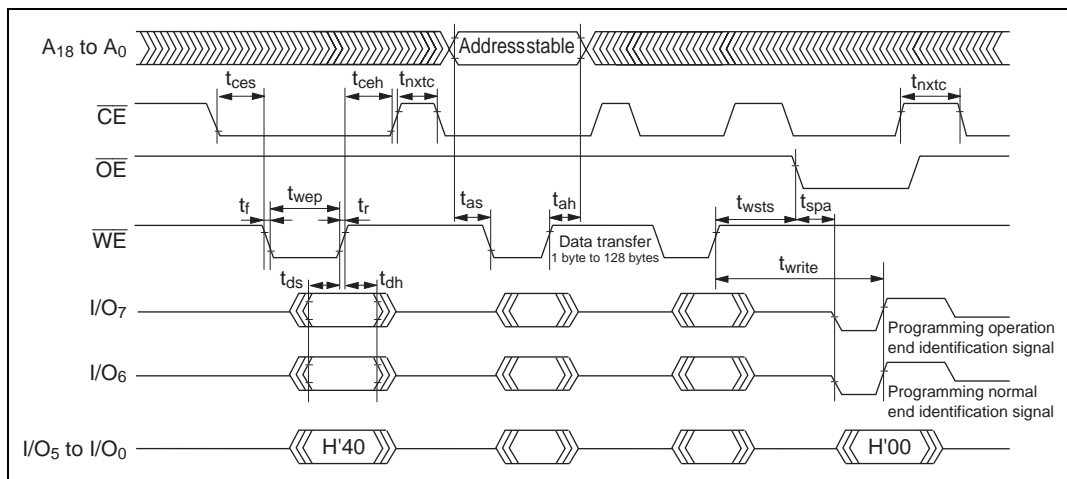

Figure 17.56 Auto-Program Mode Timing Waveforms
- Memory address transfer is executed in the second cycle (figure 17.56). Do not perform transfer later than the second cycle.